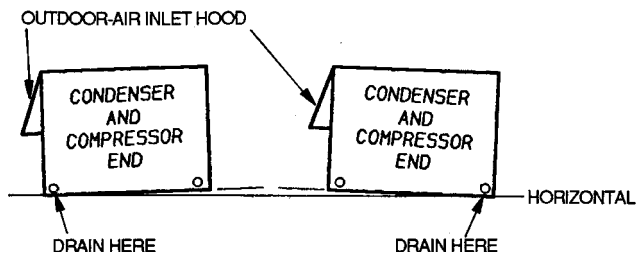

Fig. 4 — Drain Location Selection
Condensate Drain — Two condensate drain holes are located in the unit base rail to allow greater flexibility during installation. One hole must be selected for a condensate drain (see Fig. 4), and the other hole must be sealed.
1. Select the appropriate drain location. See Fig. 4.